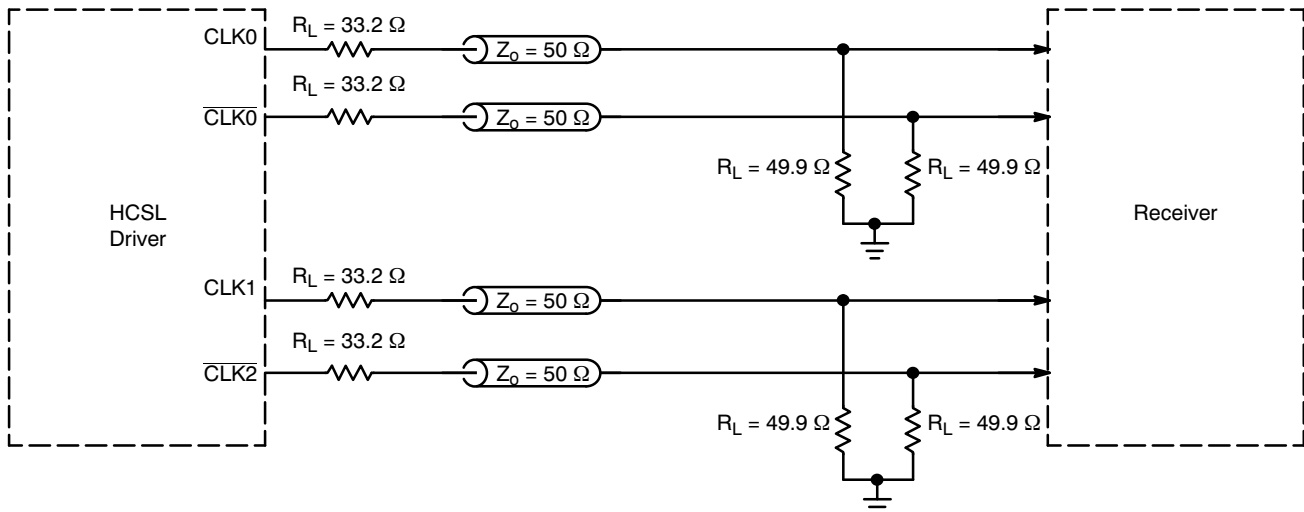

Figure 3. Typical Termination for Output Driver and Device Evaluation
- Measurement taken with outputs terminated with R_S = 33.2 Ω, R_L = 49.9 Ω, with test load capacitance of 2 pF and current biasing resistor set at 475 Ω. See Figure 3.
5. Measurement taken from differential output on single-ended channel terminated with $R_S = 33.2 \Omega$, $R_L = 49.9 \Omega$, with test load capacitance of 2 pF and current biasing resistor set at 475 Ω . See Figure 3.